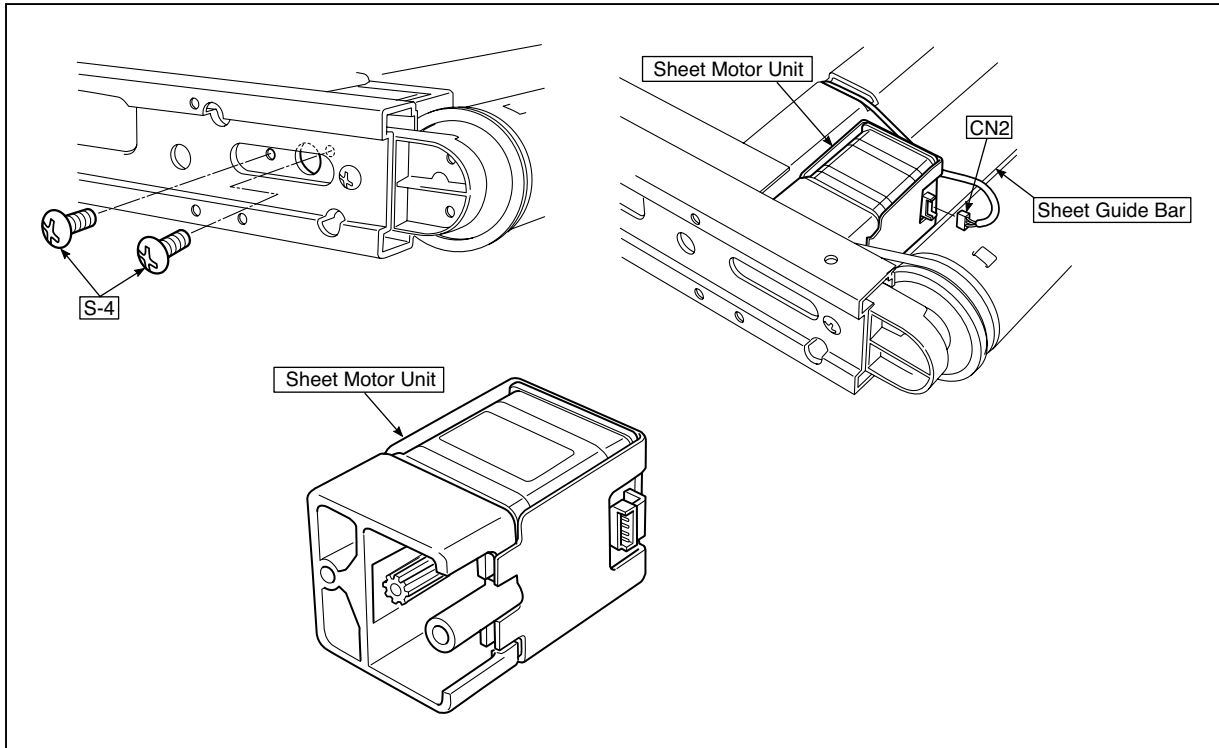

Fig.29
12) Replace the Sheet Motor Unit. (See Fig. 29)
1. Remove the "S-4" screws shown in the figure 29.